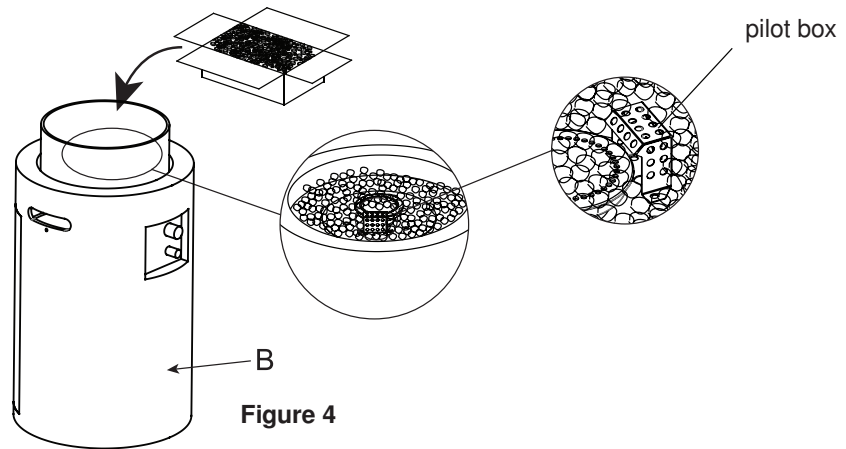

Figure 4
5. Pour the lava rocks (E) into the fire bowl. (see Figure 4)